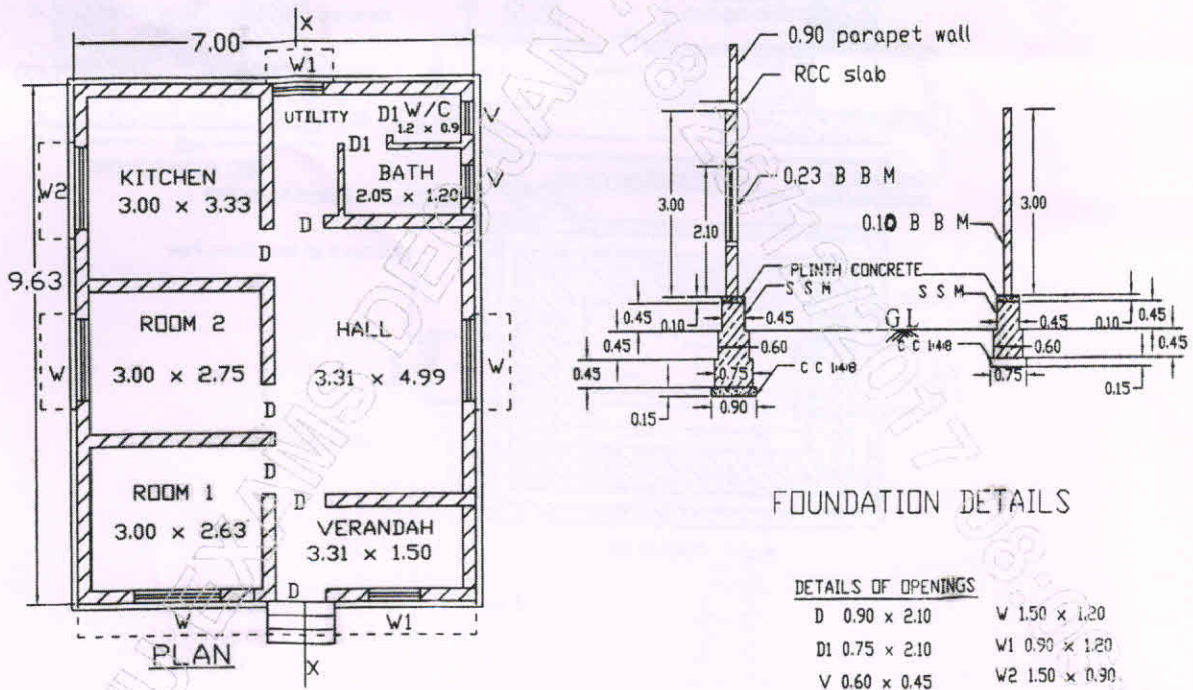

Fig Q1
- 1** The plan and cross section of walls of residential building are as shown in Fig. Q1. Work out the quantities and prepare the cost abstract of the following items of work by centre line method.